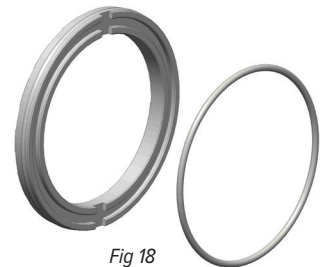

Fig 18
1. Place the impeller and impeller drive assembly (items 2B, 3, 3A, 4, 4A & 4C) on a table with the eye of the impeller facing up.
2. Using petroleum jelly or similar substance, place the o-ring (item 2B) into the groove on the rear of the impeller thrust ring (item 3A). See figure 18.
1. Make sure the bushing and spacer are properly inserted in the impeller drive. Bushing nose piece will stick out about $\frac{1}{4}$ " from the impeller drive. See figure 18 below.